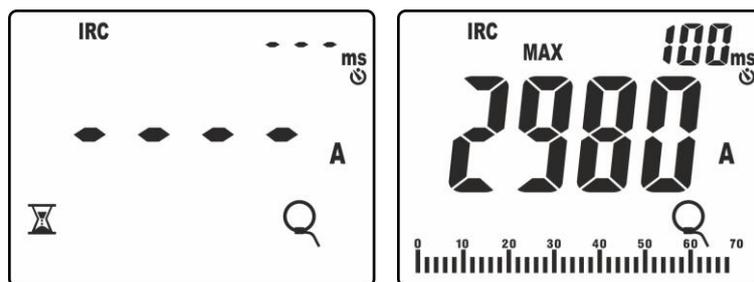

Fig. 43: Recognition of inrush current event
8. Press key **GO/STOP** to activate the function. The instrument waits for the event to be recognized (measured value higher than the fixed trigger threshold equal to **1%FS clamp: e.g. 30A with FS = 3000A**) and shows symbol “⌚” on the display (see Fig. 43 – left side)
9. Upon recognition of the event, **measurement stops automatically** and the instrument shows, in its main display, the **Max RMS** value calculated according to the evaluation time of **100ms** (default) indicated on the secondary display (see Fig. 43 – right side)